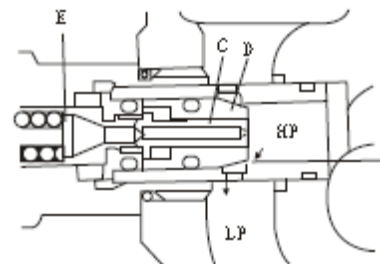

Fig. 5-9
When the pressure at HP passage side and the inside pressure are unbalanced, the valve D will be opened under the effect of pressure difference and the oil directly flows into the low-pressure (LP) passage. See Fig. 5-9.